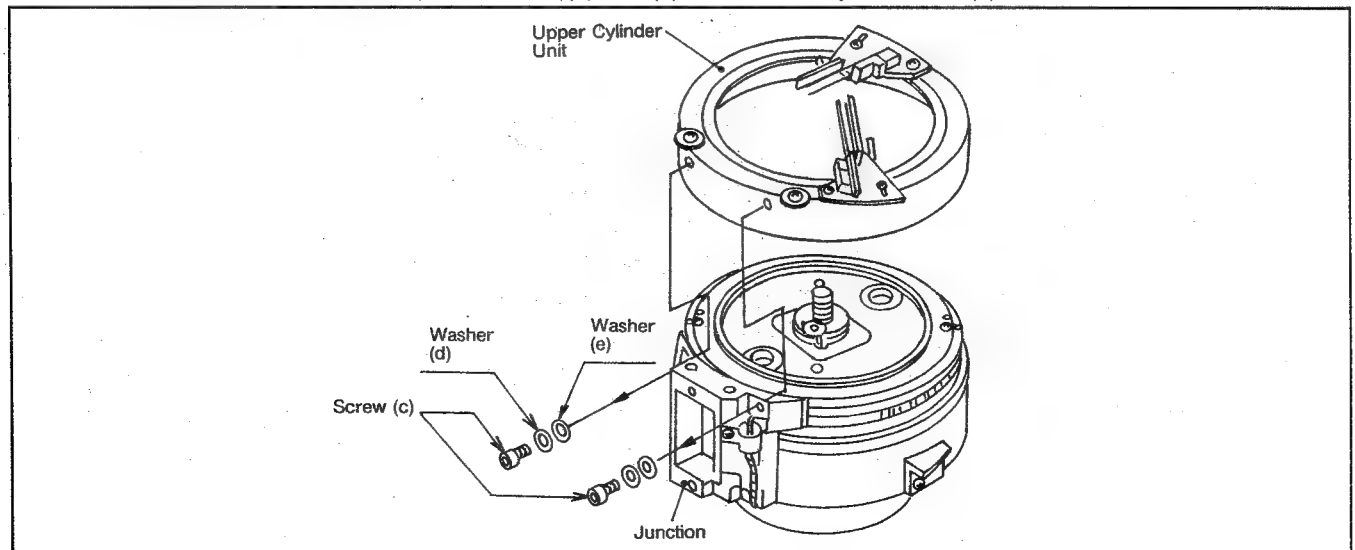

Fig. 7-4-1
- 1) Remove 2 pcs of screw (c) and washer (d),(e) as shown in figure 7-4-1.